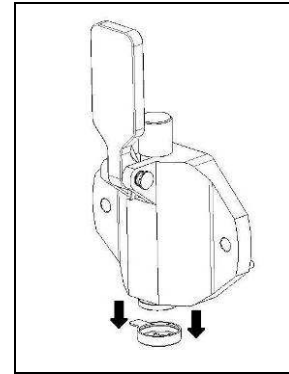

Fig. 21
- Remove the device that gives the star-shaped form to the ice cream from the flange (fig. 21).